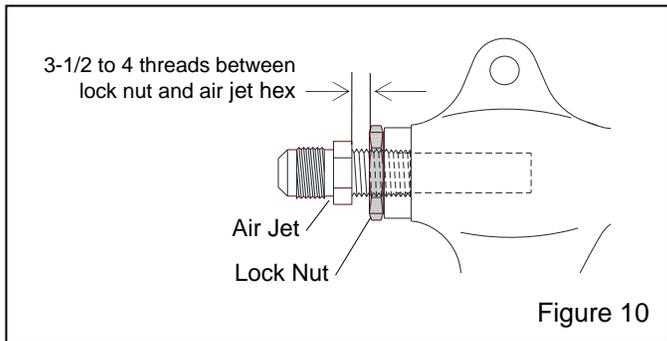

Figure 10
5.2 Air Jet Adjustment, Figure 10